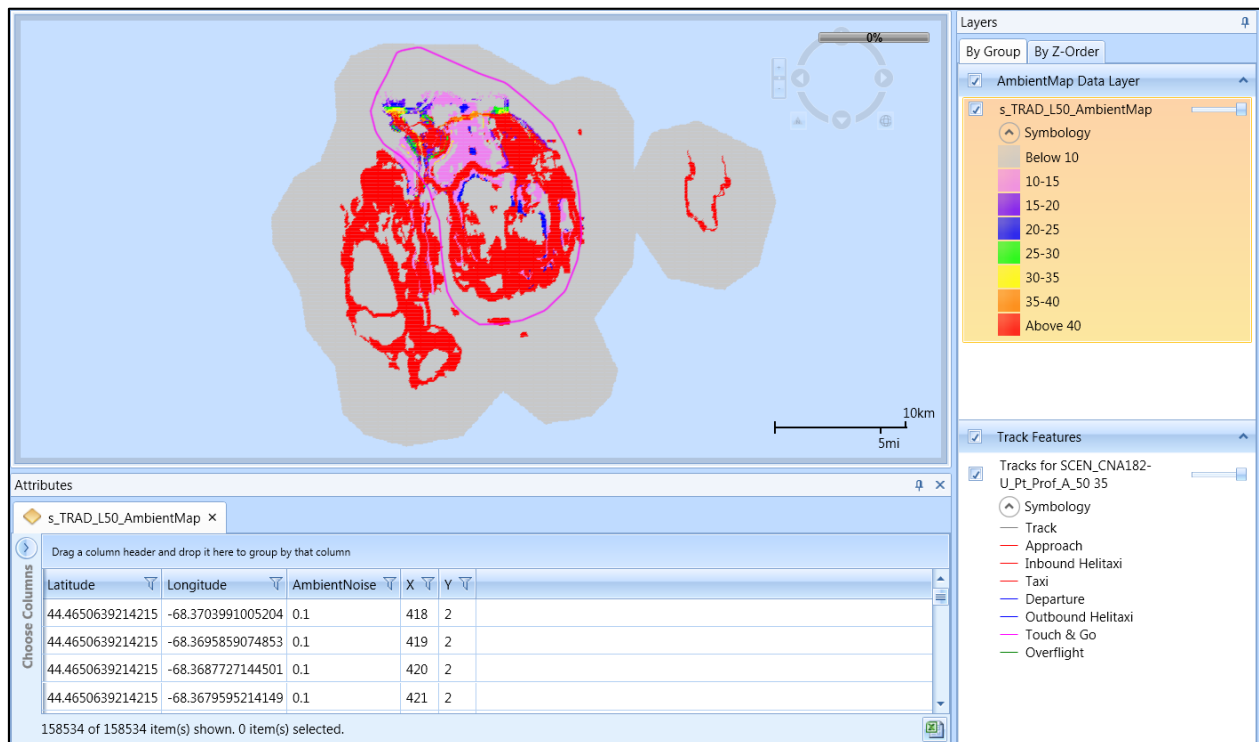

Figure 5-40 Sample Ambient Map Layer with Attributes – shown with Tracks
3. The ambient map layer is displayed on the map (Figure 5-40) and in the *Layers* manager.
The following attributes are available for time audible ambient map layers: latitude, longitude, ambient noise level, and x and y coordinates (Figure 5-40). See Appendix B.3 for descriptions of the attributes.